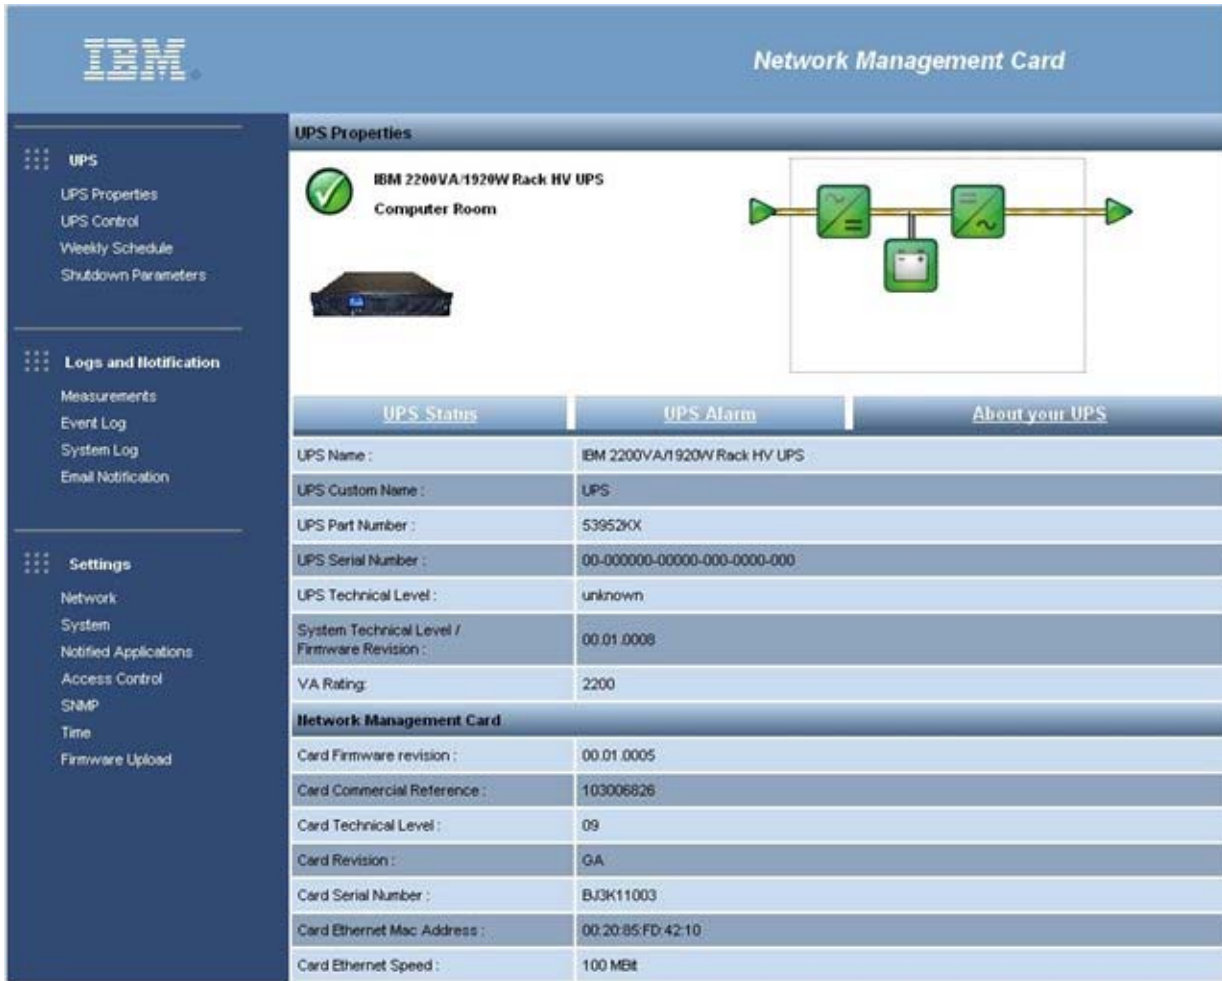

Figure 8. IBM LCD UPS Network Management Card (NMC) UPS properties window
- Allows configuration of automatic email messages in response to UPS alarms and to transmit periodic reports (see Figure 8)
Figure 8 shows the Network Management Card UPS properties window.